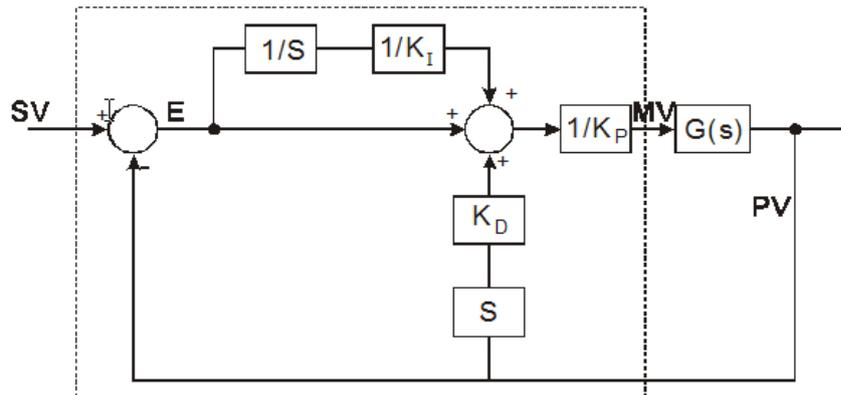

Figure 2 Control diagram for control mode 3/4 (S_{3+4} is K3/K4.)
- Control diagram: In Figure 2, $1/K_i$ and $1/K_p$ refer to “divided by K_i ” and “divided by K_p ”. Because this control diagram is for temperature control, users have to use the instruction PID together with the instruction GPWM.